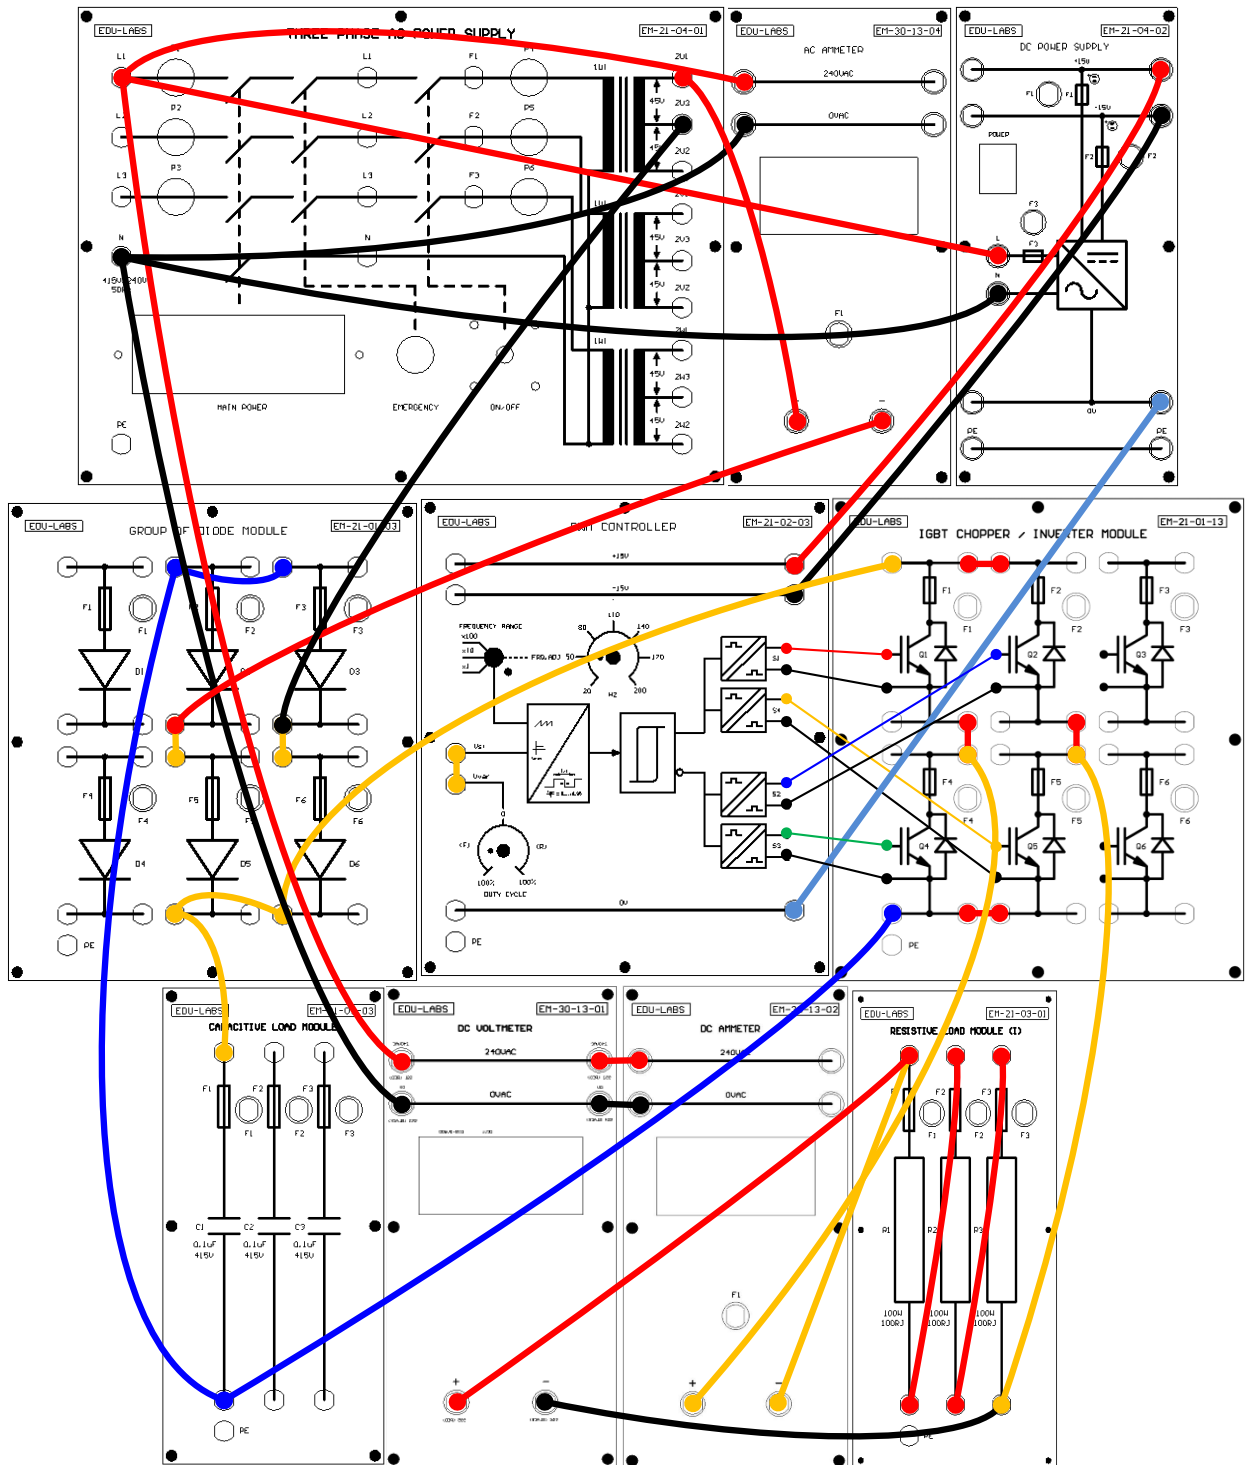

Figure 26.1 Circuit diagram for measure the output voltage
The H-Bridge converter is a double direction output current converter and adjustable output voltage. The circuit diagram of H-Bridge consists of two IGBT circuits (T1-T3 and T2-T4) as shown on fig. 26.1. To prevent the short circuit each IGBT is fired separately.
Figure 26.1 the H-Bridge converter circuit
1. Construct the circuit according to circuit diagram Figure 26.1.